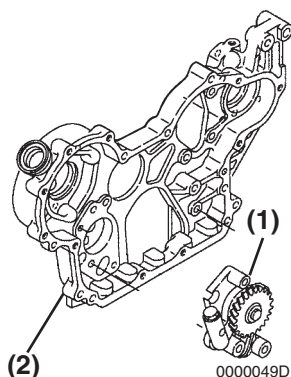

Figure 9-22
3. Reinstall the oil pump assembly (**Figure 9-22, (1)**) into the gear case housing (**Figure 9-22, (2)**). Tighten the bolts to specified torque.